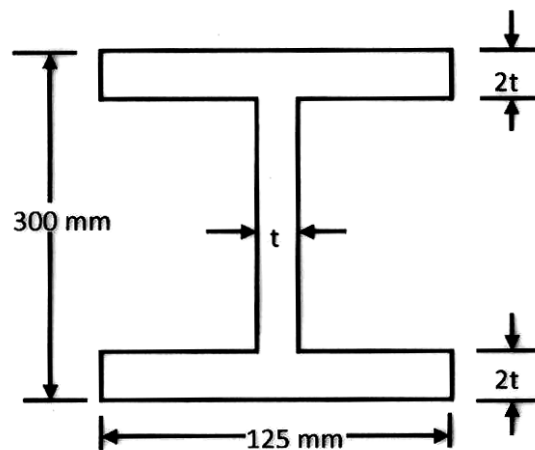

Fig. 4
- (b) The cross section of the beam is as shown in the Fig. 4. This section is used as a beam, simply supported at ends and has span 5 m. The beam carries a uniform distributed load (UDL) of intensity 25 kN/m. Determine maximum thickness 't', if maximum bending compressive stress is not to exceed 150 MPa and maximum shear stress is not to exceed 100 MPa. [8]